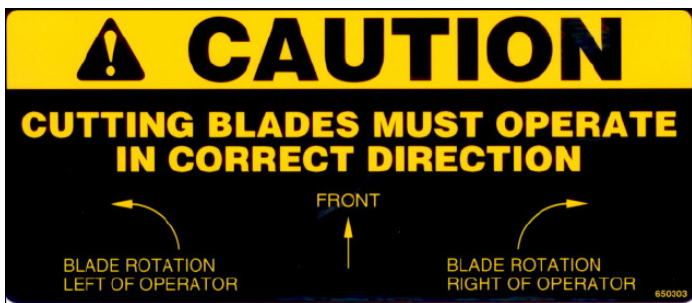
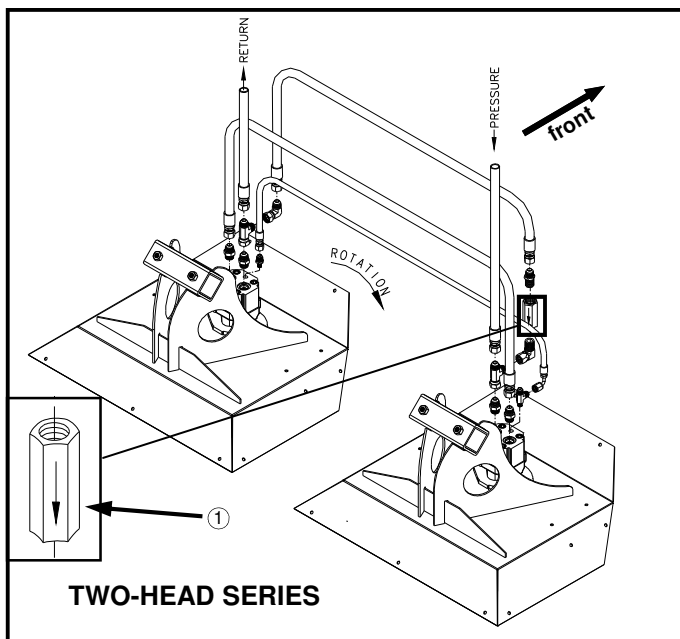
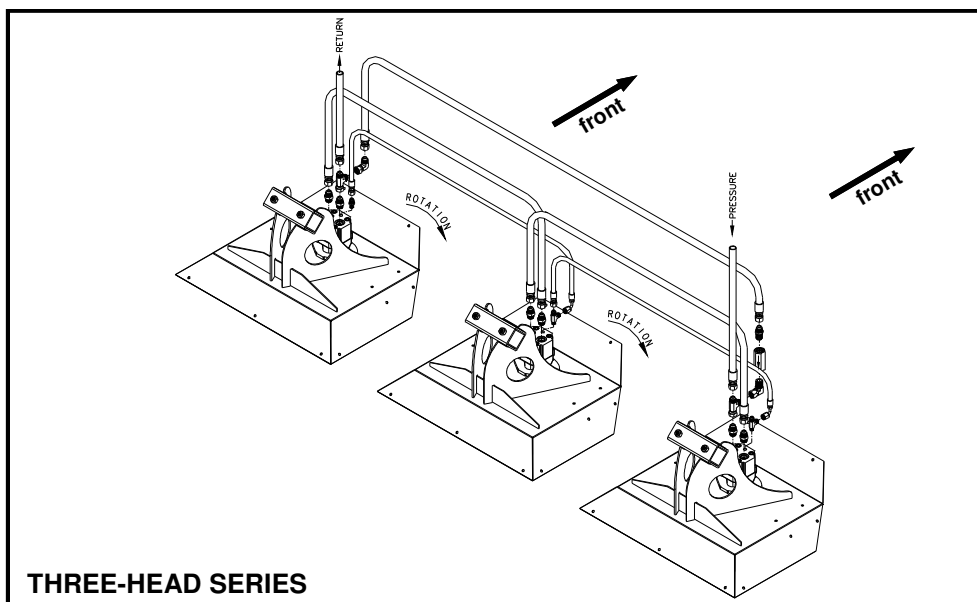

FIG 4.22
FIG 4.25
FIG 4.26
Hydraulic hoses on cutter heads should be hooked up so blades on heads mounted right of operator rotate according to fig. 4.22, fig. 4.25 and fig. 4.26 (clockwise from above). Refer to the Hagie 204 Parts Manual for correct hardware, hose lengths, and hydraulic schematic.
Care should be taken when installing check valve (fig. 4.25, item 1) on cutter motor so the flow arrow is oriented correctly (two-head or three-head series).